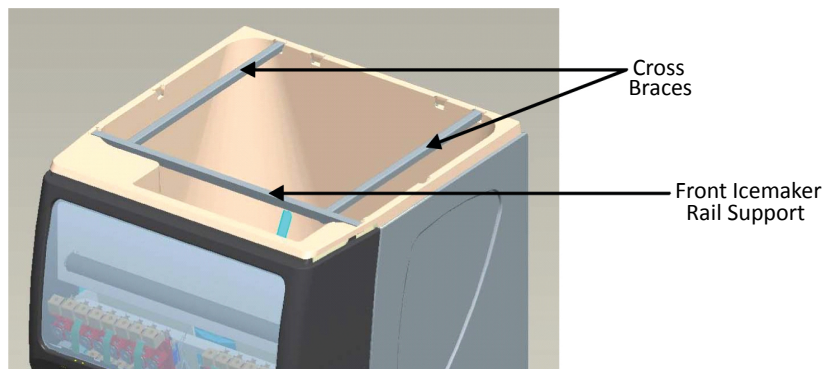

Figure 2.
2. Place ice maker rail supports into the pockets in the ice bin as shown in Figure 2.